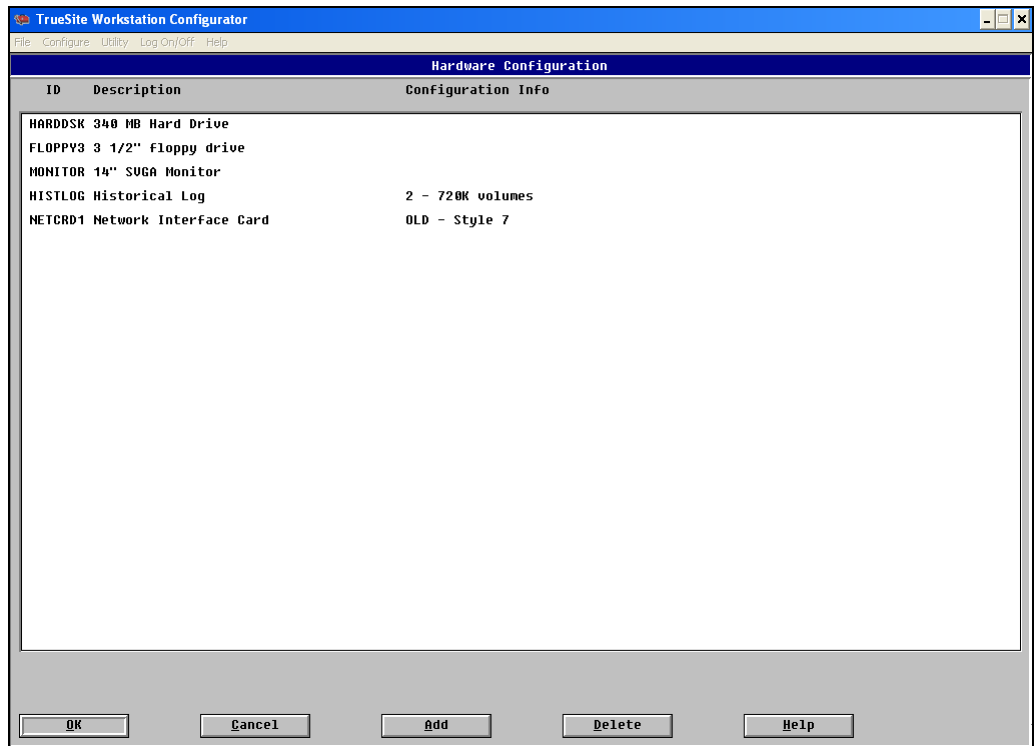

Figure 5-2 TrueSite Workstation Configurator Hardware Configuration Screen
2. From the Configure menu, select the Hardware Config option. The system displays the Hardware Configuration screen shown in Figure 5-2.